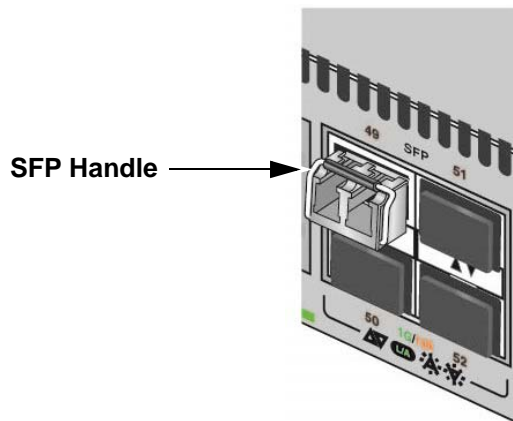

Figure 33. Positioning the SFP Handle in the Upright Position
7. Verify the position of the handle on the transceiver. If the transceiver is in a top port, the handle should be in the upright position, as shown in Figure 33. If the transceiver is in a bottom port, the handle should be in the down position.